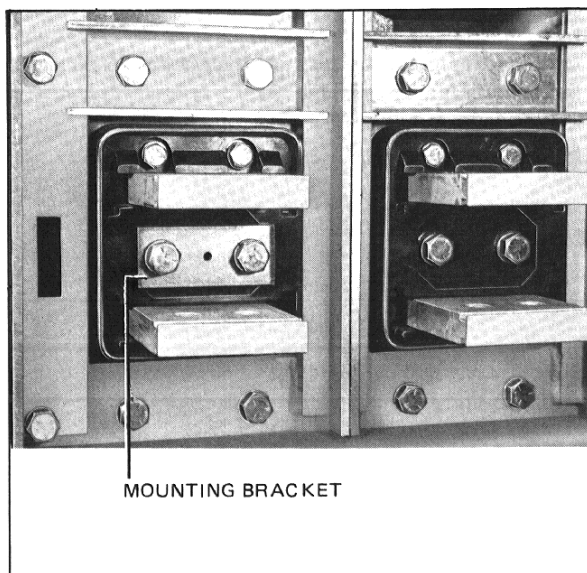
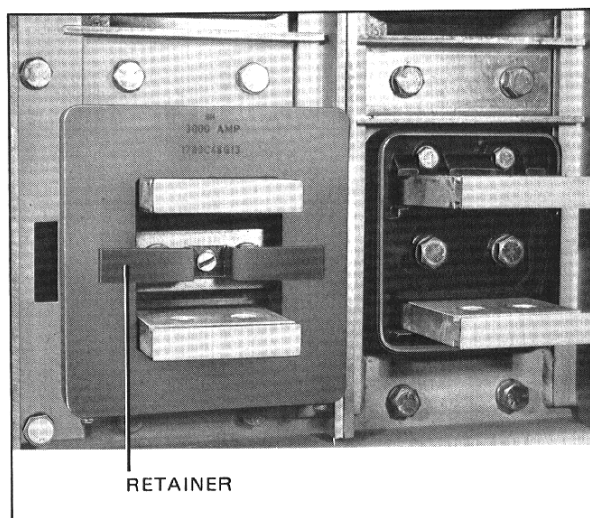

Fig. 34 Sensor Mounting Bracket DB-75/100
Fig. 35 Sensor Mounted in Place with Retainer
8. Remove the finger clusters from the three lower studs, remove the two (2) .50-13 x 1.25 bolts located directly in the middle of the studs. Place the sensor mounting bracket with the nipples facing the two holes from where the bolts were removed and secure with two (2) .50-13 x 2.5 bolts and washers, (Fig. 34). Slide the sensors onto the studs, do not force the sensors on, due to close tolerances the sensor may be inched from side to side to get them properly mounted. Once the sensor is up against the back plate secure it with the mounting bracket using the .25-20 x .50 panhead screw, (Fig. 35). The sensor must be mounted with the end marked with the letters "SH" on top. These sensors have a special shield to minimize the effect of stray flux.